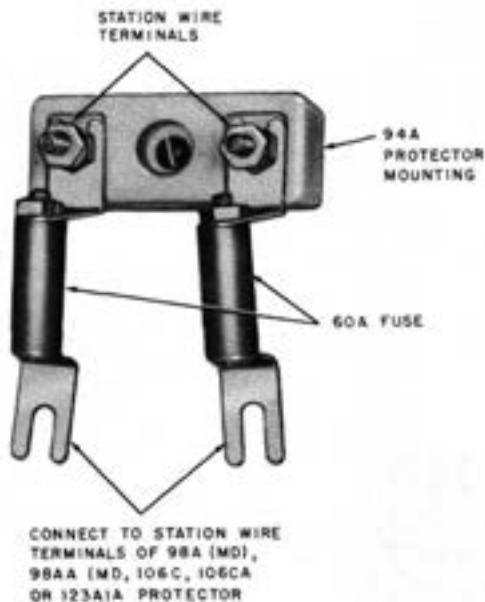

Fig. 80—60A Fuses Connected to 94A Protector Mounting
10.04 The 60A and 60D fuses (Fig. 79) are rated 0.350 ampere and differ only in arrangement for mounting. The 60A fuse has a spade terminal and is used with the 94A protector mounting (Fig. 80). The 60D fuse is mounted in a 14A fuse holder (Fig. 81) or 1094A protector (Fig. 82), or 191A1-20 protector (Fig. 83).